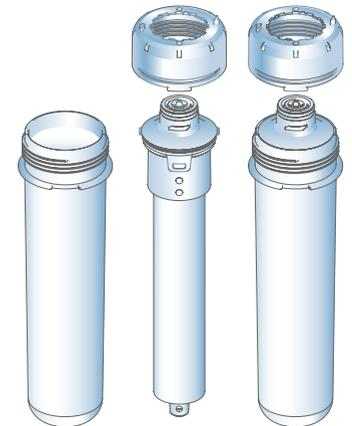

Figure 12: Unscrew the Cover of the Membrane Cartridge
\*— open the housing with membrane element, remove membrane element from the housing, close the housing and install it back to the water filter. (See Figure 12).
- Press and hold the locking button of the housing and unscrew the cover. See Figure 12.